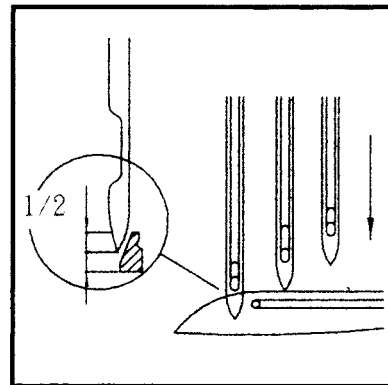
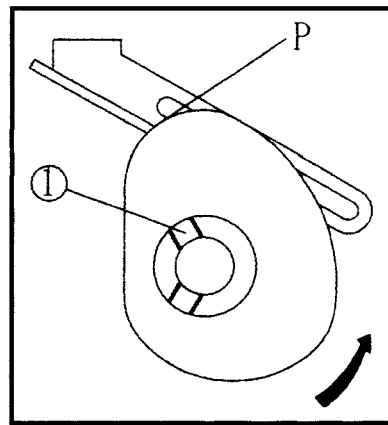

Fig.37
Fig.38
(Fig.38) is viewed left side of operator.
2. 當針從最高處下降時，左針大約位於勾針後面之一半的位置時(圖 37) 勾針針線必須脫離凸輪之最高位置 (P)。(圖 38)
When needle comes down from the highest position and the Left Needle tip reaches around 1/2 position of the looper, (Fig.37) the looper thread should come over the highest position (P) of the Cam. (Fig.38)
3. 調整螺絲①並調整之。